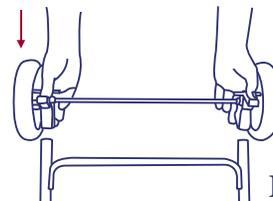

Fig. 3a
- Lean the stroller forward to rest on the front wheels. To attach the rear wheels, position the rear axle and wheel assembly such that the brake levers are facing to the rear of the stroller. Press the rear wheel assembly onto the rear frame tubes being careful that the push buttons on the forward side of each rear tube engage the hole on the forward side of each rear wheel housing. Pull on the rear wheel assembly to ensure that it is securely attached to the stroller. Please see figure 3a.